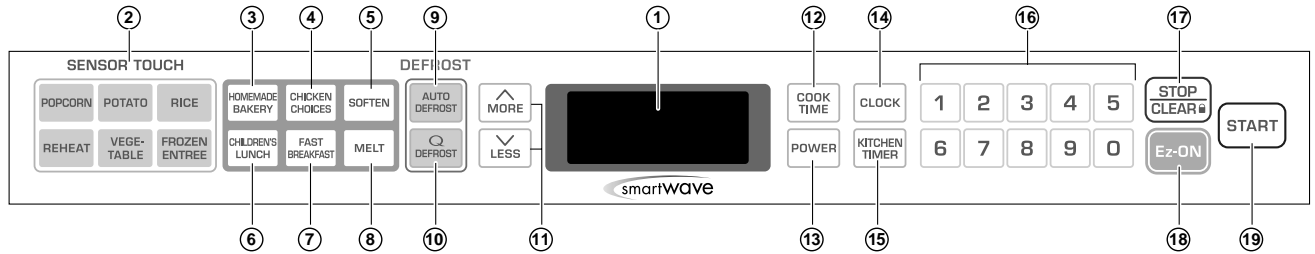

Figure 5.
B. PANEL INSTRUCTIONS (Figure 5)
Numbers and letters explained in Figure 5 are shown in the display window (Vacuum Fluorescent Tube).